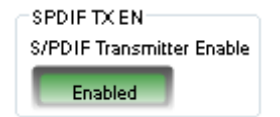

Figure 40. Activating the **SPDIF_TX_EN** Register
- d. To activate the S/PDIF interface, click the **Disabled** button in the **SPDIF TX EN** box. When this button is clicked, the text displayed on the button changes to **Enabled** and the button color changes from red to green (see Figure 40).